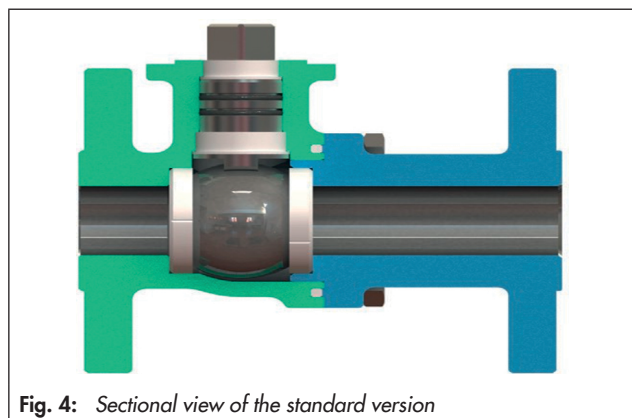
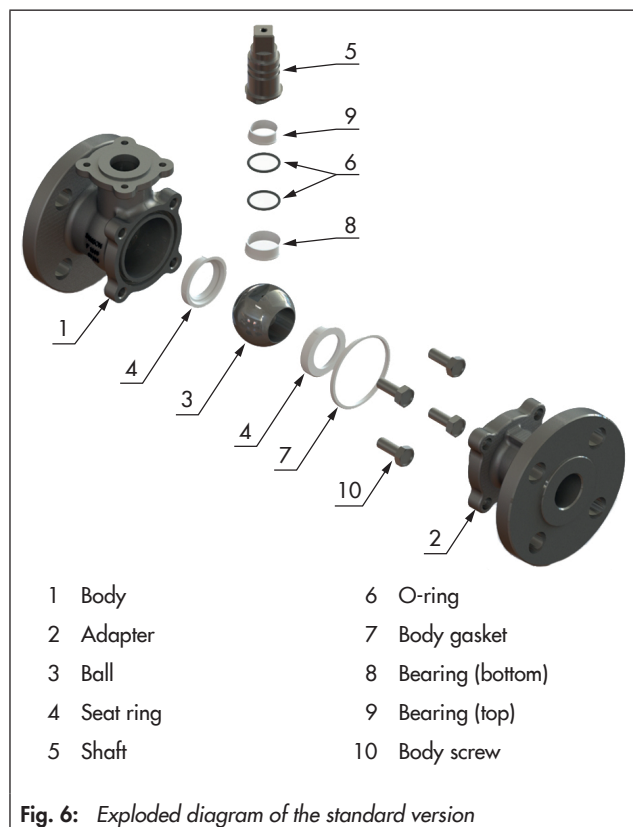

Fig. 4: Sectional view of the standard version
Fig. 6: Exploded diagram of the standard version
The shaft (5) of the **standard version** is sealed by O-rings (6) (see Fig. 4 and Fig. 6).